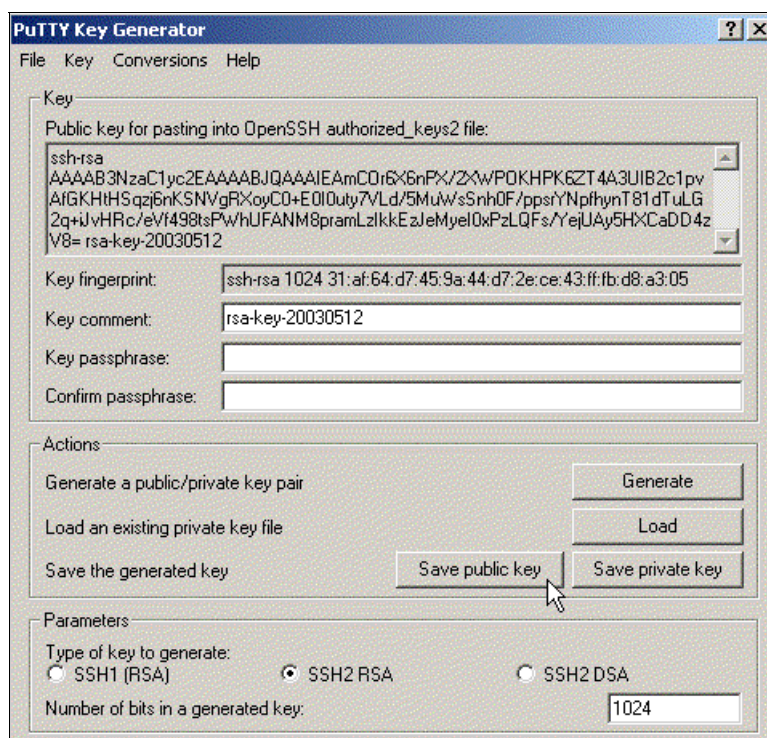

Figure 4-3 Saving the public key
- a. Click **Save public key** as shown in Figure 4-3.